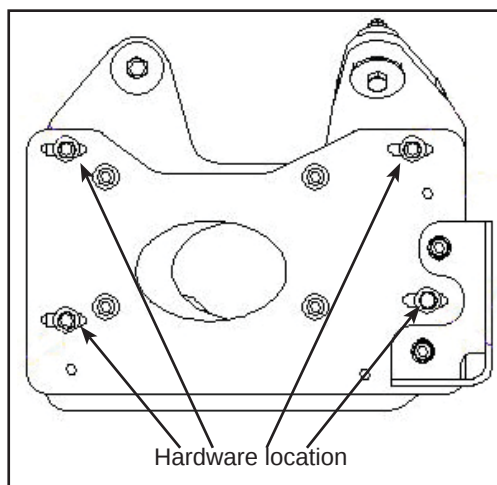

Figure 4 - Compressor Plate Hardware Location
- 1.7. Remove the compressor plate M12 bolts (4x), nuts (4x) and washers. See Figure 4. Discard the hardware.